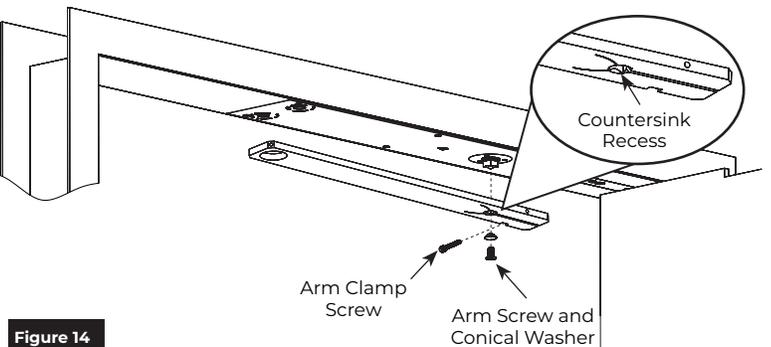

Figure 14
1. Attach arm to closer shaft with 1/4-20 x 3/4" FH-Allen w/Nylon Patch screw and washer. Tighten securely. (Figure 14)
2. Insert 10-24 x 1-1/2" socket head cap screw into arm and clamp arm tightly to pinion square. (Figure 14)